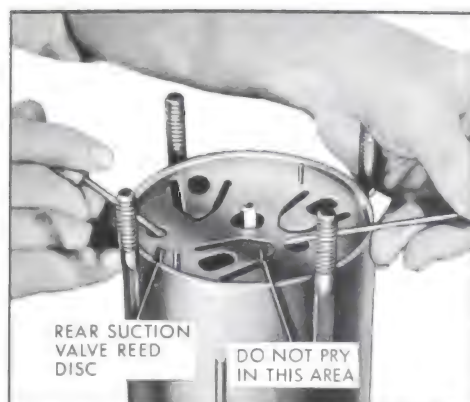

Figure 11-119—Removing Rear Suction Valve Reed Disc
17. If rear suction valve reed disc did not come out with valve plate, carefully remove reed as shown with two small screwdrivers. See Figure 11-119. Replace valve disc if damaged.